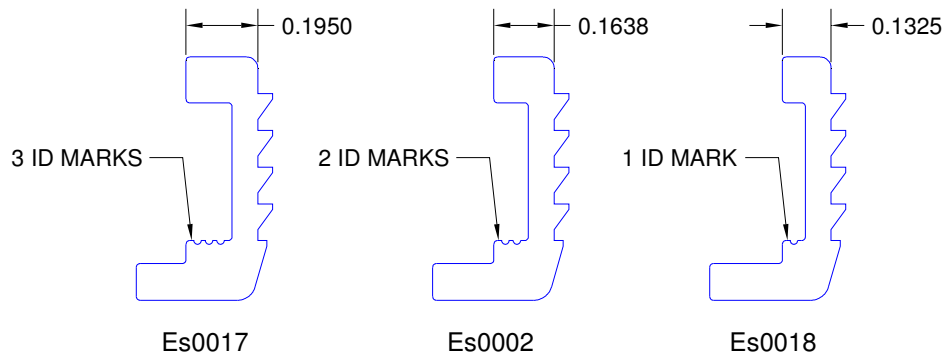

Figure 11:
3. Use Table 3 to select the appropriate glass keys. Figure 11 can be used to properly identify the glass keys.